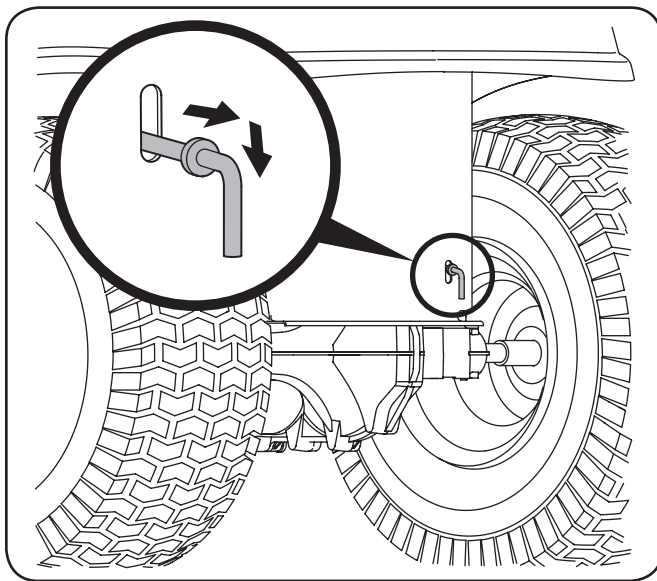

Figure 3-1
1. Locate the hydrostatic bypass rod in the rear of the tractor. See Figure 3-1.
1. Locate the hydrostatic bypass rod in the rear of the tractor. See Fig. 3-1.